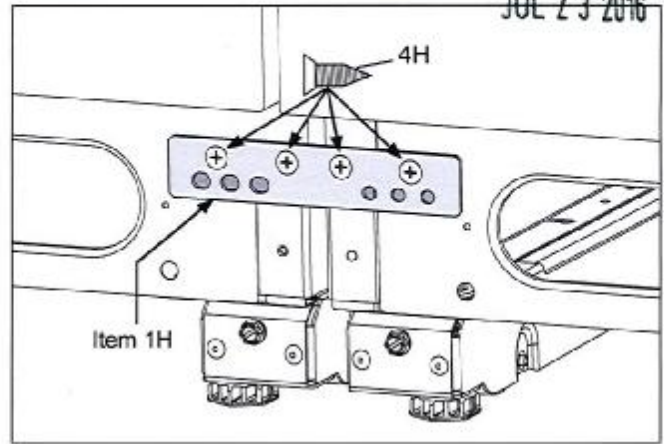

Figure 8.
- d. Tie units together with common mounting bracket at the bottom front using #3 Phillips driver. (See Figure 8)